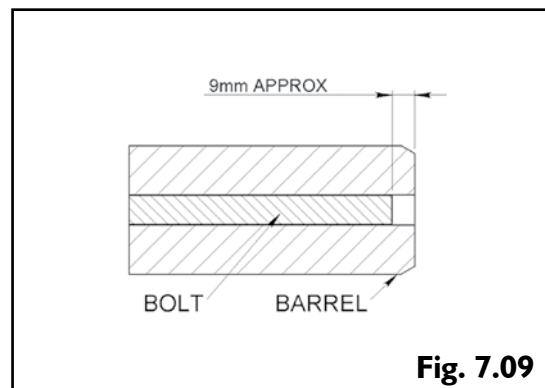

Fig. 7.09
- ▶ Visually check that the bolt is fully retracted before firing (refer to Fig 7.09 on next page)